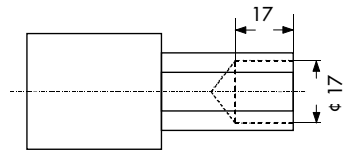

Fig. 4 · Socket wrench
To disassemble the plug (3), a socket wrench (Order No. 1280-3001) is required. This wrench can also be made from, for example, a GEDORE screwdriver bit (IN 19-19) by boring a hole into the 19 mm hexagonal bit as illustrated in Fig. 4.